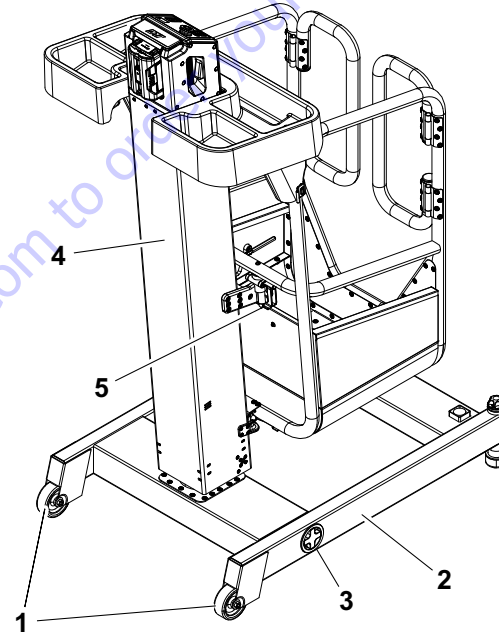
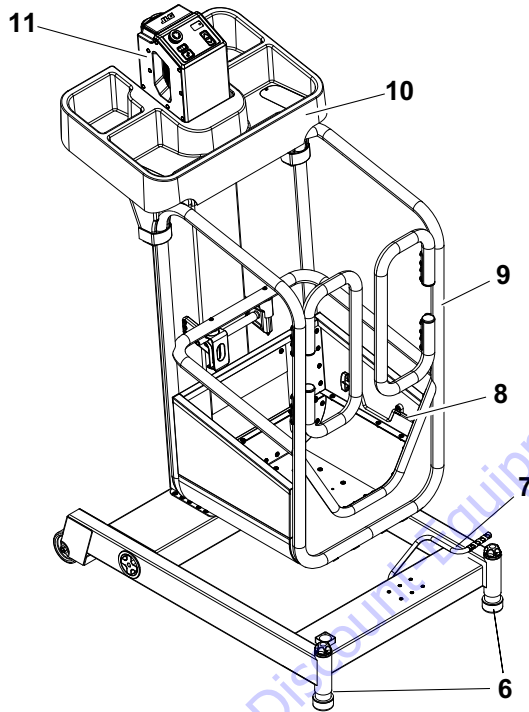

Figure 2-2. Daily Walk-Around Inspection
Figure 2-3. Daily Walk-Around Inspection
Begin the Walk-Around Inspection at item one (1) as noted on the diagrams Figure 2-2. and Figure 2-3. Continue around machine checking each item in sequence for the conditions listed in the following check list.